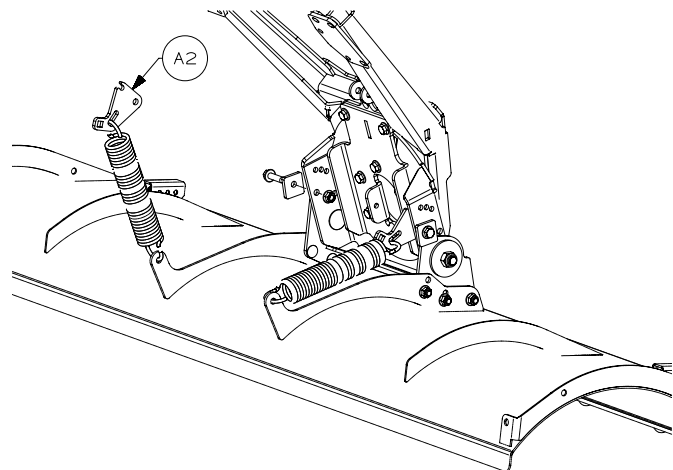
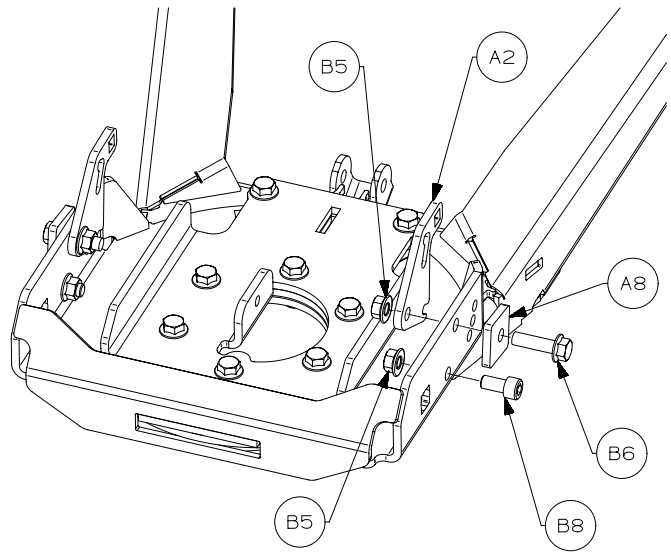

Figure 3
Figure 4
5. Allow the push tube assembly to rotate forward about the bushing. Install plow springs onto blade and spring hanger (A2) onto springs as shown in figure 3.
6. Position the Spring Hangers (A2) to the inside and the Stop Blocks (A8) to the outside of the assembly by loosely installing fasteners (B5, B6). Do not tighten fasteners. Stop block fasteners should be loose enough to allow the stop blocks to pass beyond rib mount plates (A6). See figure 3 and figure 4 (springs and blade omitted from illustration for clarity).
8. Install fasteners (B5, B8) to push tube assembly. Tighten fasteners to torque specifications listed. See figure 4.